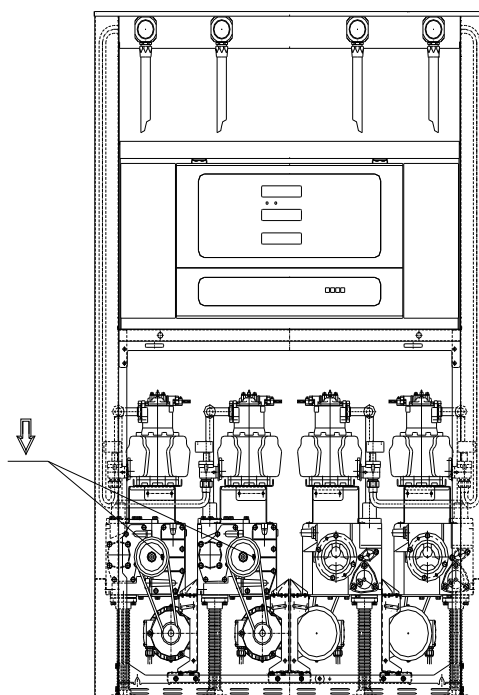

Figure 14 – Checking the direction of the pump motor revolving – see the arrow
**NOTICE** After connecting the power supply to the electromotor, check the proper direction of its turning! The proper direction is marked by the arrow on the pump's belt - see Figure 14.